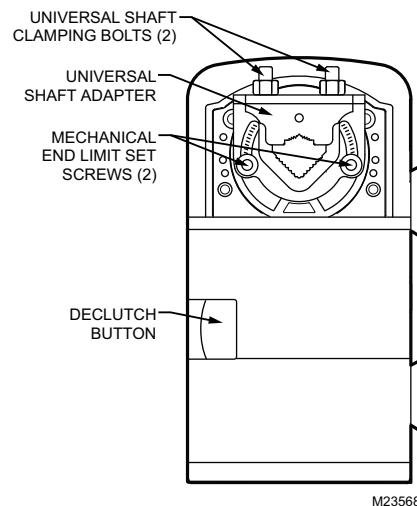

Fig. 1. Series 60 Floating Actuator.
The two mechanical end-limit set screws control the amount of rotation from 12° to 95°. These set screws must be securely fastened in place. To ensure tight closing of the damper, the shaft adapter has a total rotation stroke of 95° (see Fig. 1).
2. The Declutch button, when pressed, allows you to rotate the universal shaft adapter (see Fig. 1).
It is advisable to leave the dampers in an open position after installation to avoid the possibility of over-pressurizing the duct work on fan startup. Use the Declutch button (see Fig. 1 on page 4) to open the box damper on controllers that are powered down, to prevent over-pressurization in the duct work on fan startup. To Declutch, press and hold the button to disengage the motor. Turn the damper shaft until the damper is open and release the button. When power is restored to the controller, the controller synchronizes the damper actuator, so that the damper is in the correct position upon startup.